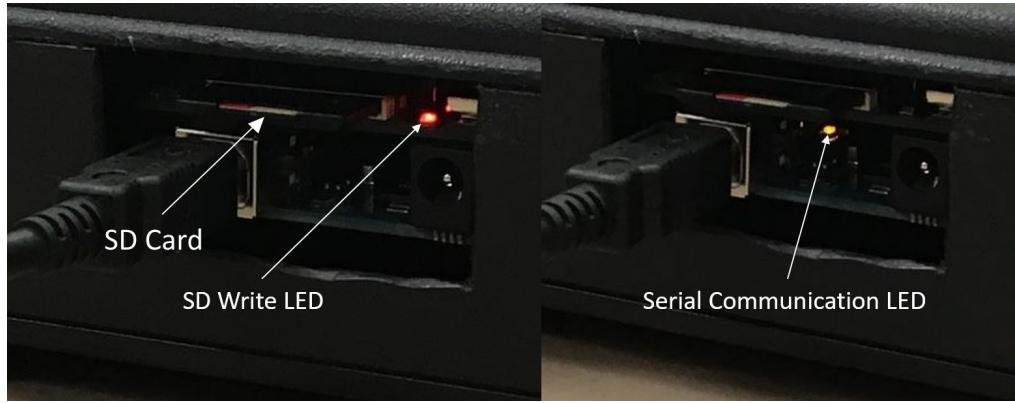

Figure 4: Control LEDs inside the TADA
- Upon opening the program, a yellow LED in the TADA should begin flashing (See Figure 4)
- A red LED in the TADA should begin blinking (See Figure 4)